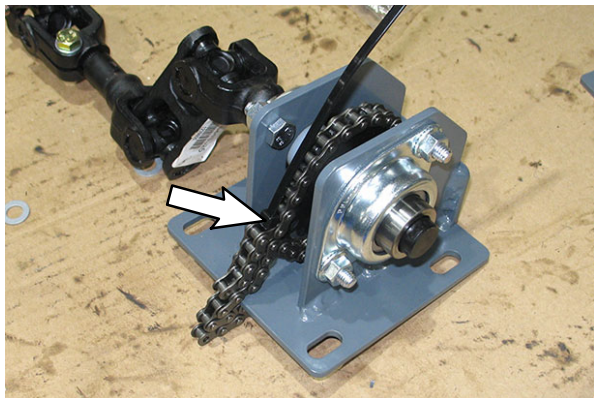

FIG. 17
17. Use a cable tie to secure the chain onto the steering bearing assembly. (Fig. 17)